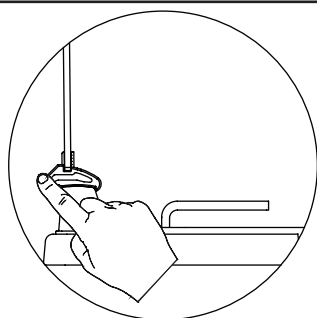

Figure 1
- 1.** As shown in figure 1, the glass door can be closed by pressing the latch located on the plastic clip with a finger.